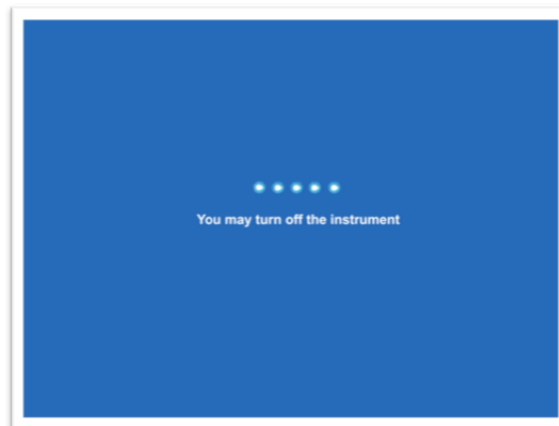

Figure 41: Final Shutdown Screen
4. When the “*You may turn off the instrument*” message displays (Figure 41), you can safely shut off power to the analyzer by pushing the **OFF** switch on the left panel of the analyzer. (Figure 2)